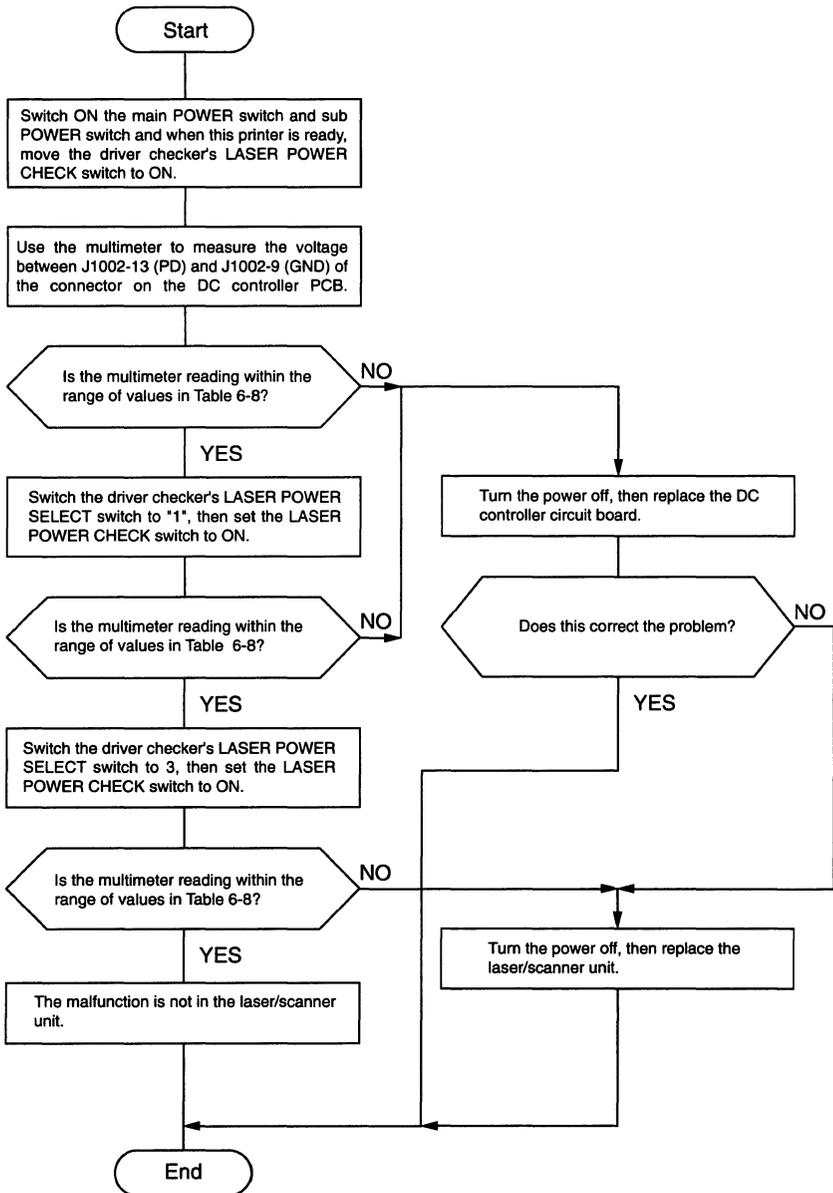

Figure 6-8
5. Carry out the check according to the flowchart given in Figure 6-8.